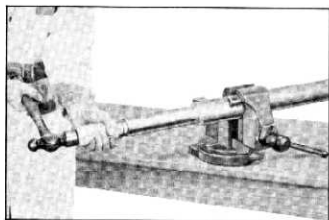

Fig. 10—Installing Torque Tube Front Bushing
5. Install new rear bushing using bushing driver J-4259. Drive the bushing in until the stop on the driver is against end of torque tube (fig. 10).